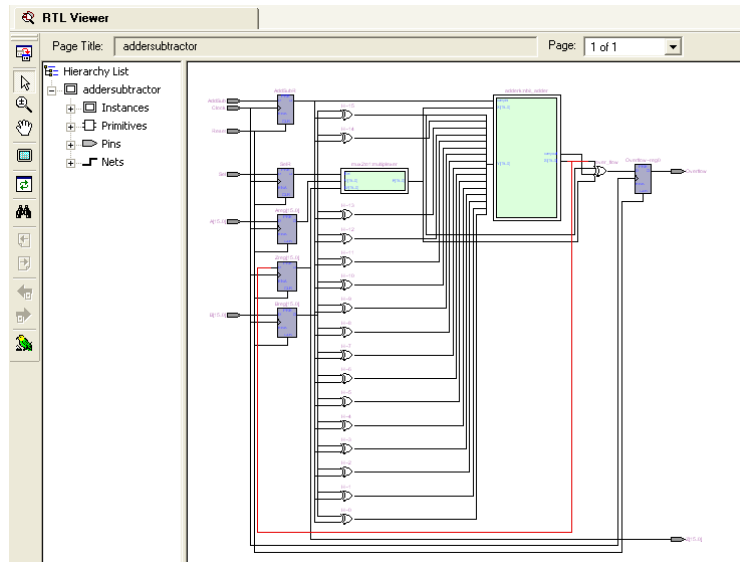

Figure 27: The *addersubtractor* circuit displayed by the RTL Viewer.
1. Click Tools > Netlist Viewers > RTL Viewer, to reach the window shown in Figure 27.